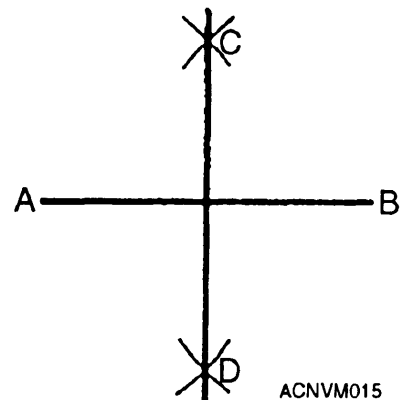

Figure 12-15.—Constructing a 90-degree angle by bisecting a line.
1. For the first method, break out your dividers, a scribe, and a straightedge. Draw a base line like the one labeled AB in figure 12-15. Set the dividers for a distance greater than one-half AB, then, with A as a center, scribe arcs like those at C and D. Then, without changing the setting of the dividers, use B as a center, and scribe another set of arcs at C and D. Draw a line through the points where the arcs intersect and you will have perpendiculars to line AB, forming four 90-degree or right angles. Not only have you constructed a